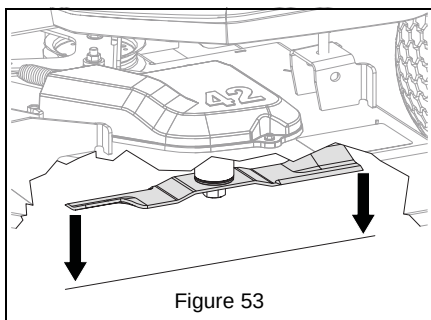

Figure 53
3. On both sides of the unit, measure the distance to the ground at the front and rear tip of the blade. See Figure 53.